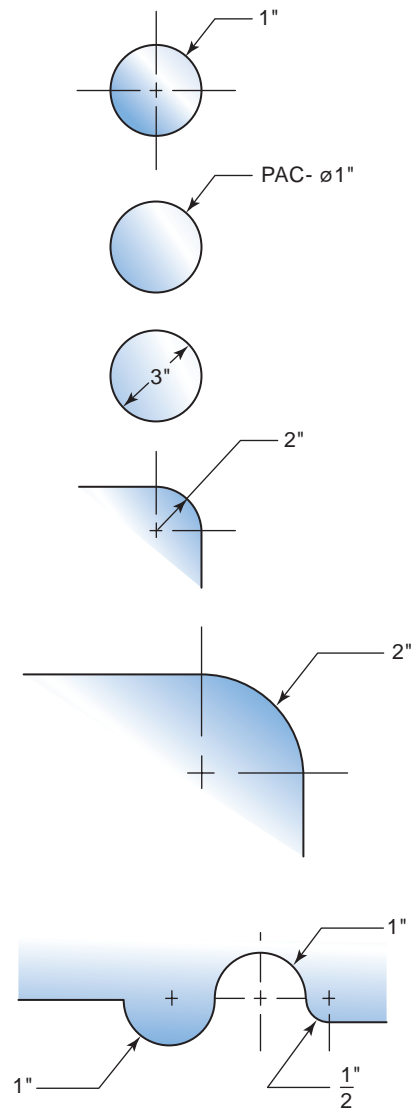

FIGURE 17-52 Dimensioning for arcs, curves, radii, and circles.
Circles, arcs, and curves can be laid out by using either a compass or a circle template, Figure 17-51(A) and Figure 17-51(B). The diameter is usually given for a hole or round part, and the radius is usually given for arcs and curves, Figure 17-52. The center of the circle, arc, or curve may be located using dimension lines and center lines. Curves and arcs that are to be made tangent to another line may be dimensioned with only their radiuses, Figure 17-52.